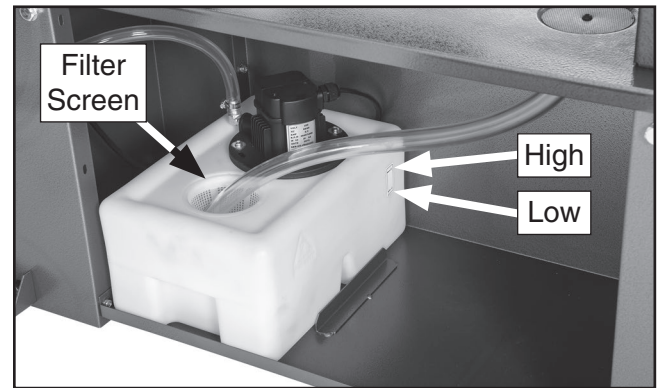

Figure 54. Location of filter screen and "high" mark on tank.
2. Fill reservoir with coolant through filter screen (see **Figure 54**) until it is at "high" mark.
2. Remove return hose and filter screen (see **Figure 54**) from tank.